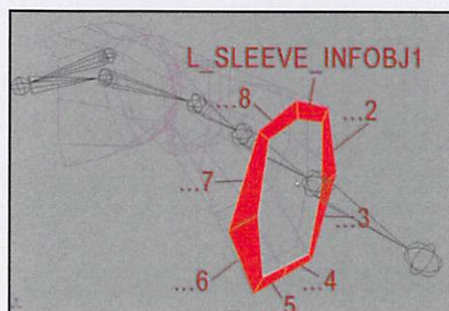

FIGURE 7—THE EIGHT INFLUENCE OBJECTS ARE CONTROLLING THE END OF THE SLEEVE
4. Renamed each one in a clockwise manner starting from the top. The new names are: "L_SLEEVE_INFOBJ1, L_SLEEVE_INFOBJ2, L_SLEEVE_INFOBJ3 ... LSLEEVE_INFOBJ8. See figure 7